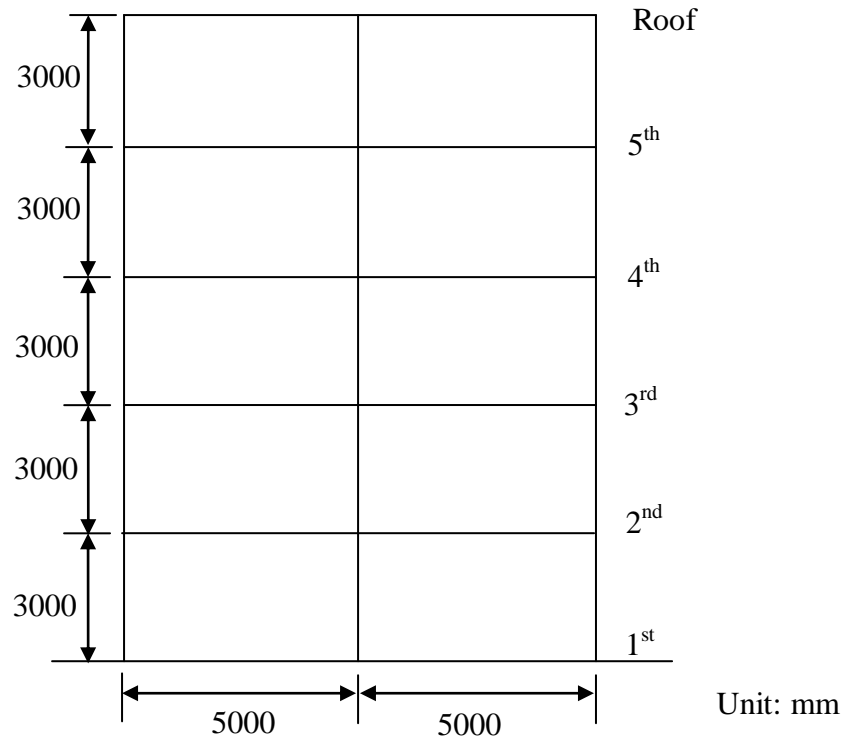

Figure 2
- (b). A reinforced concrete office building as shown in Figure 2 will be constructed on a piece of land consisted of more than 50 m stiff soil from the ground surface. The building is located in seismic zone 3. It is an ordinary moment resisting framed building. The dead load is 15 kN/m for the roof level and 20 kN/m for the floor level.